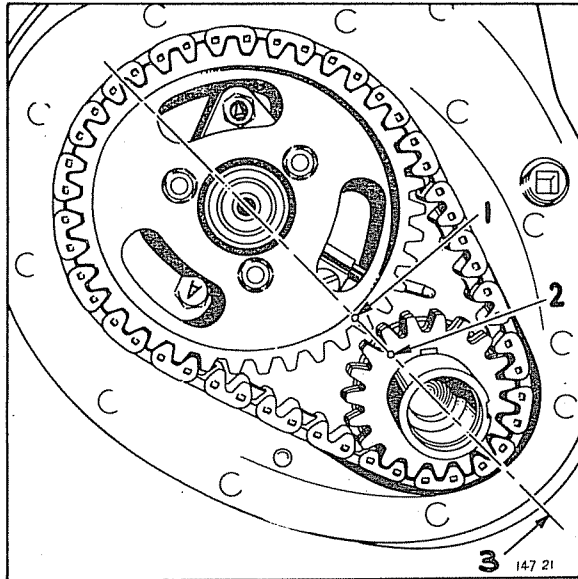

Fig. 9—Marks on Timing Sprockets.
When setting the crankshaft in place with the timing chain installed, be sure that the timing marks align (Figure 9). Continue to assemble as follows:
- (1) Place the thrust plate over the end of the camshaft.
- (2) Install the timing sprocket on the shaft.
- (3) Check camshaft end play.
- (4) Slide the camshaft through the bearings, being careful not to damage the bearings. Align the timing marks on the sprockets as shown in Figure 9. Install the thrust plate bolts and washers. Tighten securely.
- (5) Install case cover. Tighten with a torque wrench to 12 to 17 foot pounds.
- (6) Install the distributor lower drive shaft assembly in the block, meshing it with the camshaft. When meshing the drive gear with the camshaft, be sure that the slot in the coupling is in position.
- (7) Install the set screw from the side of the block, locking the lower drive shaft in the block.